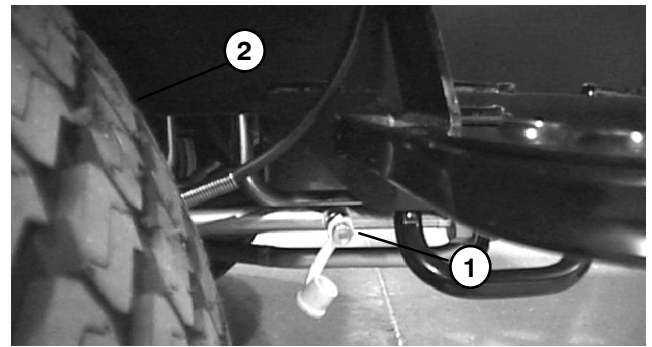

Figure 19
3. Connect a 10,000 PSI gauge to traction circuit test port for function to be checked (Forward or Reverse: Fig. 19 or 20).